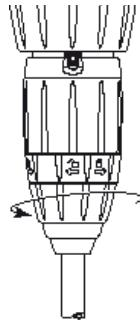

Fig. 15
- Unscrew the nut and pull downwards to remove the suction tube (**Fig. 15**).